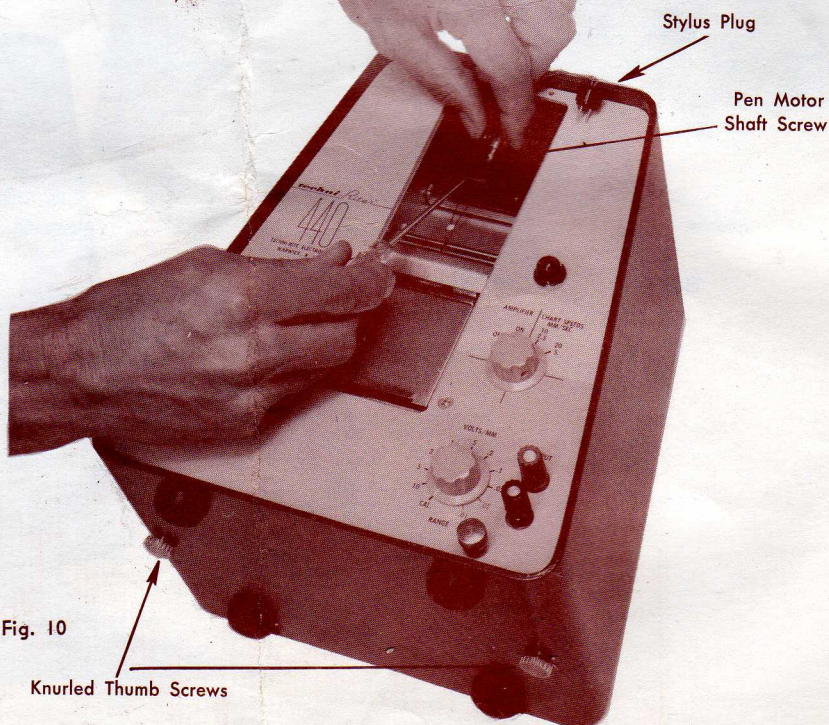

Fig. 10
1. Remove the two steel knurled Thumb Screws from the bottom of the case. See Fig. 10. Remove the instrument from the front.